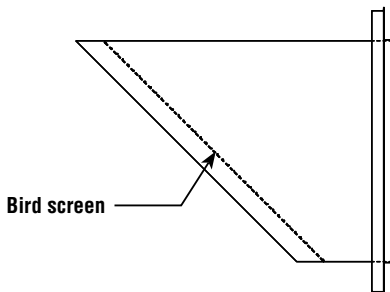

Figure 48 - Miter Cut Termination (MC)
1. Used in diesel or turbine exhaust as an horizontal termination. See **Figure 48**.